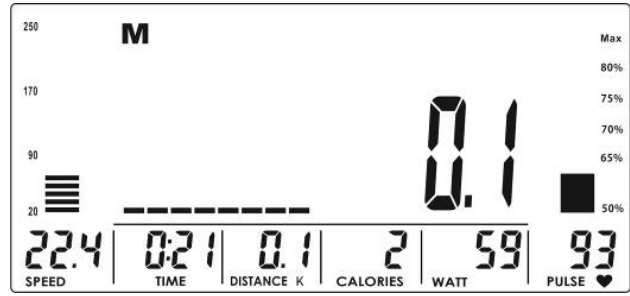

Fig. 9
4. Press START/STOP to start the training. During the training, the resistance level can be adjusted with the jog dial. When the resistance level is displayed in the WATT window, the value cannot be adjusted for three seconds. It switches to the display WATT (fig. 9).